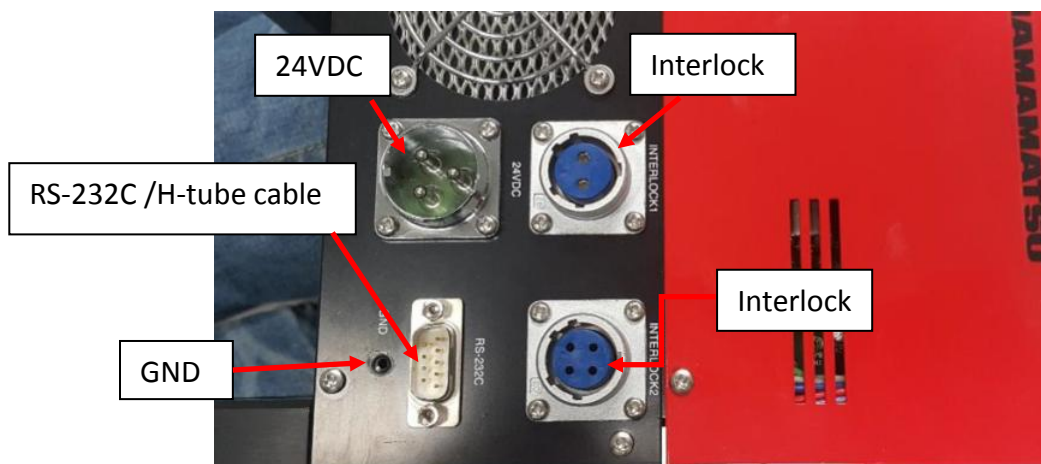
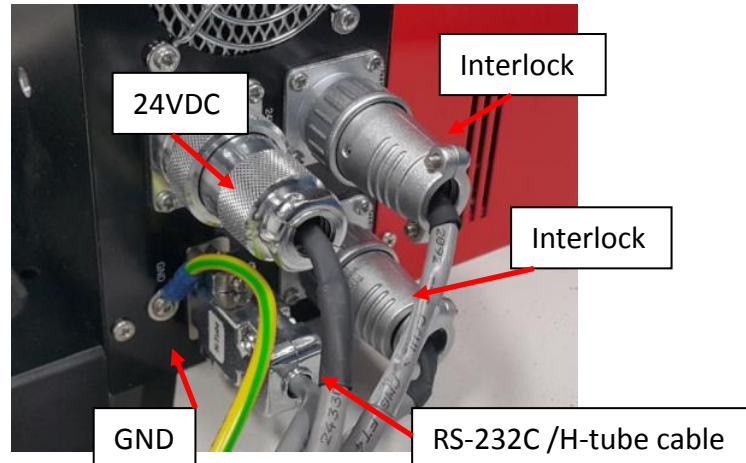

Figure 10 X-ray tube cables (1)
Figure 11 X-ray tube cables (2)
12. Insert the following cables to the X-ray tube as shown in Figure 10 and Figure 11.